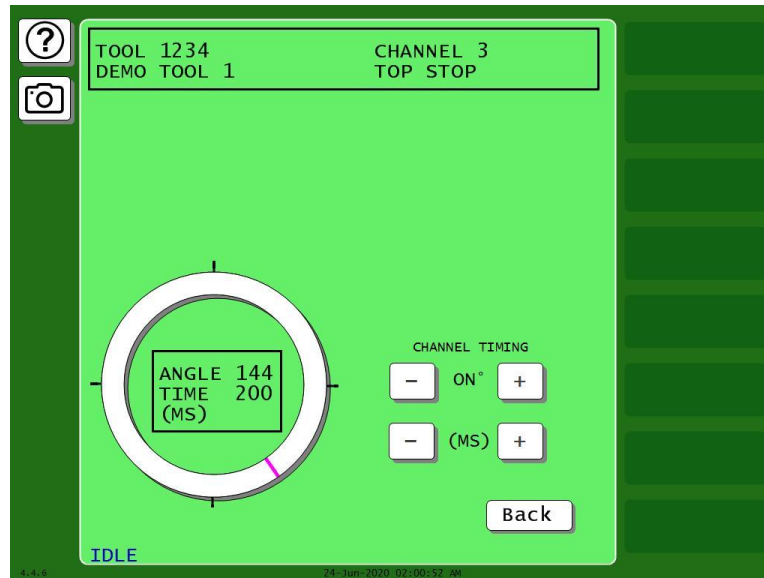

Figure 7-13. Cam Channel Timed Output Program Screen
1. Select PROGRAM TIMED OUTPUT on the Cam Channel Program Type Menu. The Cam Channel Timed Output Program screen, shown in Figure 7-13, displays.
3. Set the On time using the On-time (MS) plus and minus (+/-) buttons to adjust the On time shown inside the clock display circle to the desired value. Maximum is 500 mS, or 0.5 seconds.